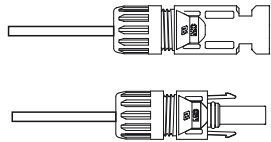

Figure 5.14 Connector with Cap nut Screwed on
4. Insert metal connector into top of connector, and tighten nut with torque 2.5-3 Nm (see figure 5.14).